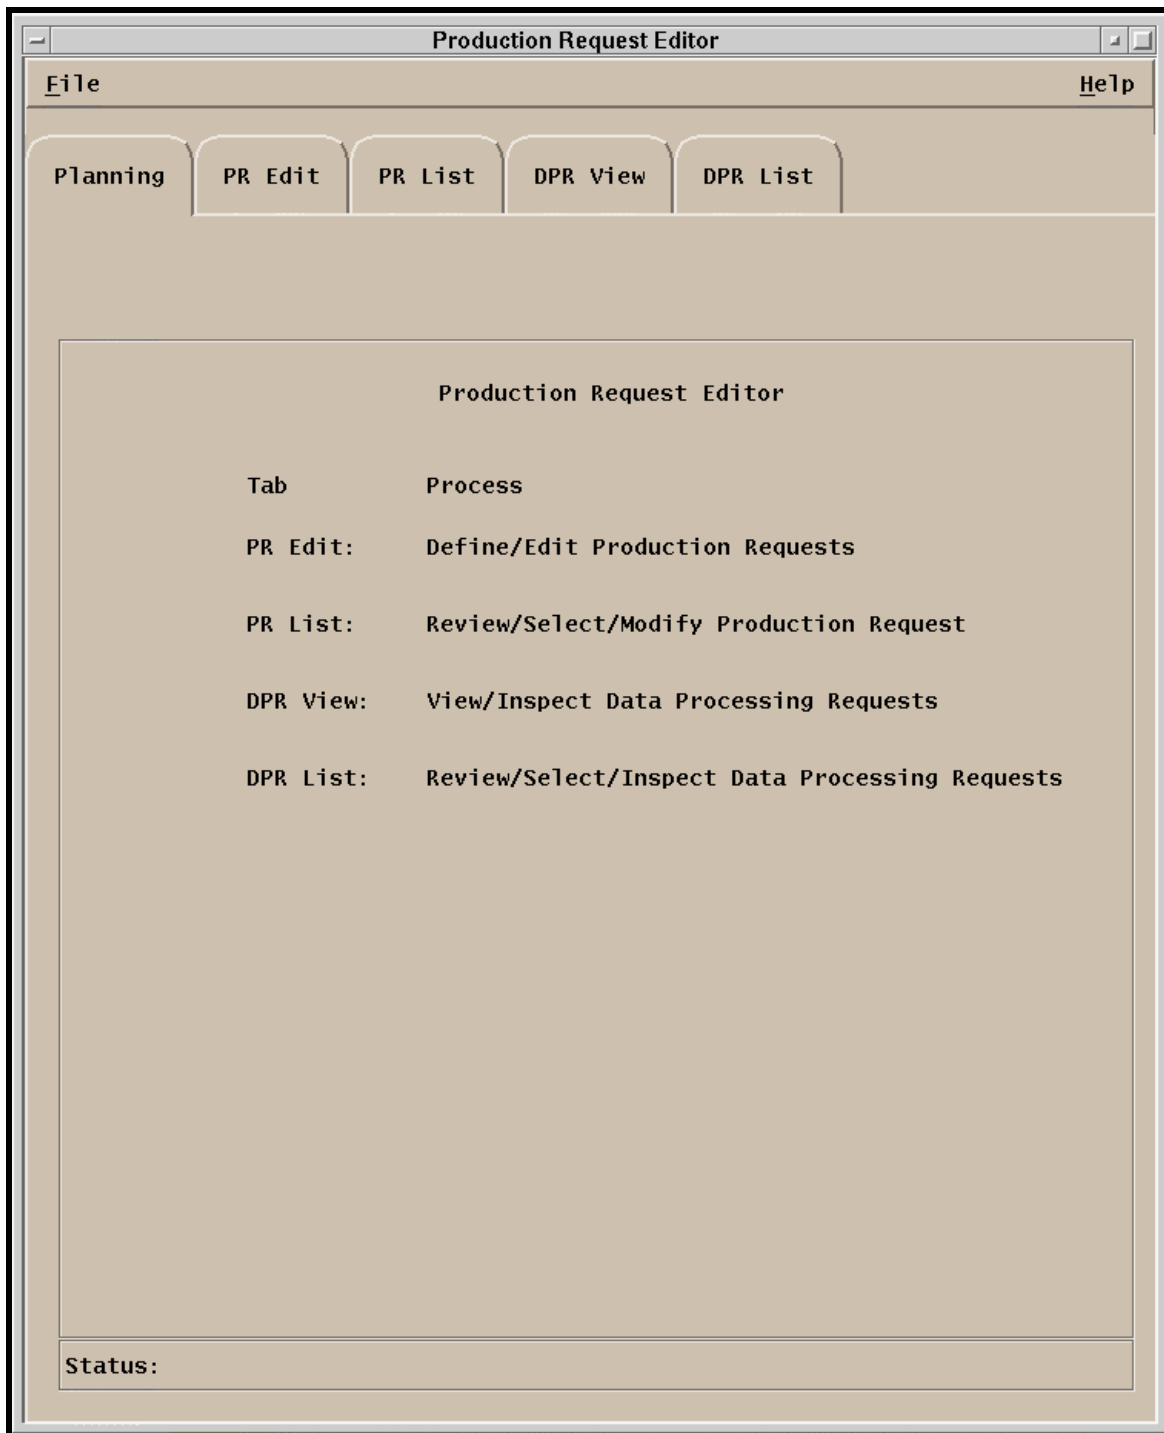

Figure 26.14.3-1. Production Request Editor Introductory GUI
Currently, the Production Request Editor is invoked from a command line script. In the future, this will be done by clicking on the icon for the PR Editor on the ECS Desktop. Once the Production Request Editor is invoked, it brings up a screen with five tabs at the top for selection (as shown in Figure 26.14.3-1). The first tab is labeled "Planning". Selection of this tab displays a list of four capabilities available for the PR Editor by selecting the other tabs at the top of the primary GUI screen: PR Edit, PR List, DPR View, and DPR List.
- The PR Edit page will be displayed as shown in **Figure. 26.14.3-2**.